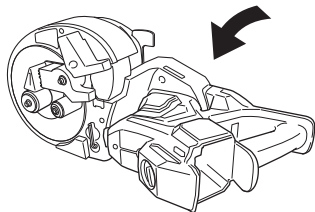

Fig. 19
- (1) Position the tool as shown in **Fig. 19**.